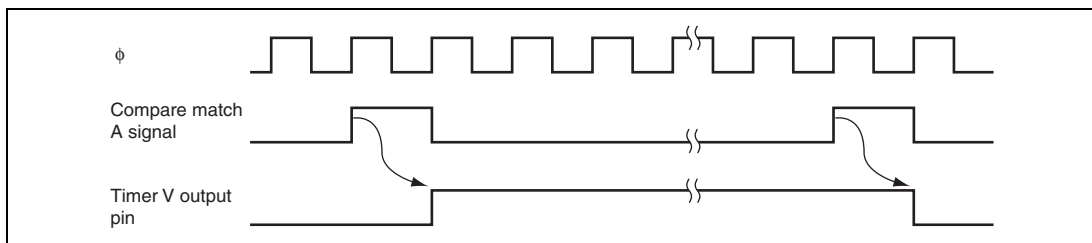

Figure 12.6 TMOV Output Timing
4. When a compare match A or B is generated, the TMOV responds with the output value selected by bits OS3 to OS0 in TCSR.V. Figure 12.6 shows the timing when the output is toggled by compare match A.